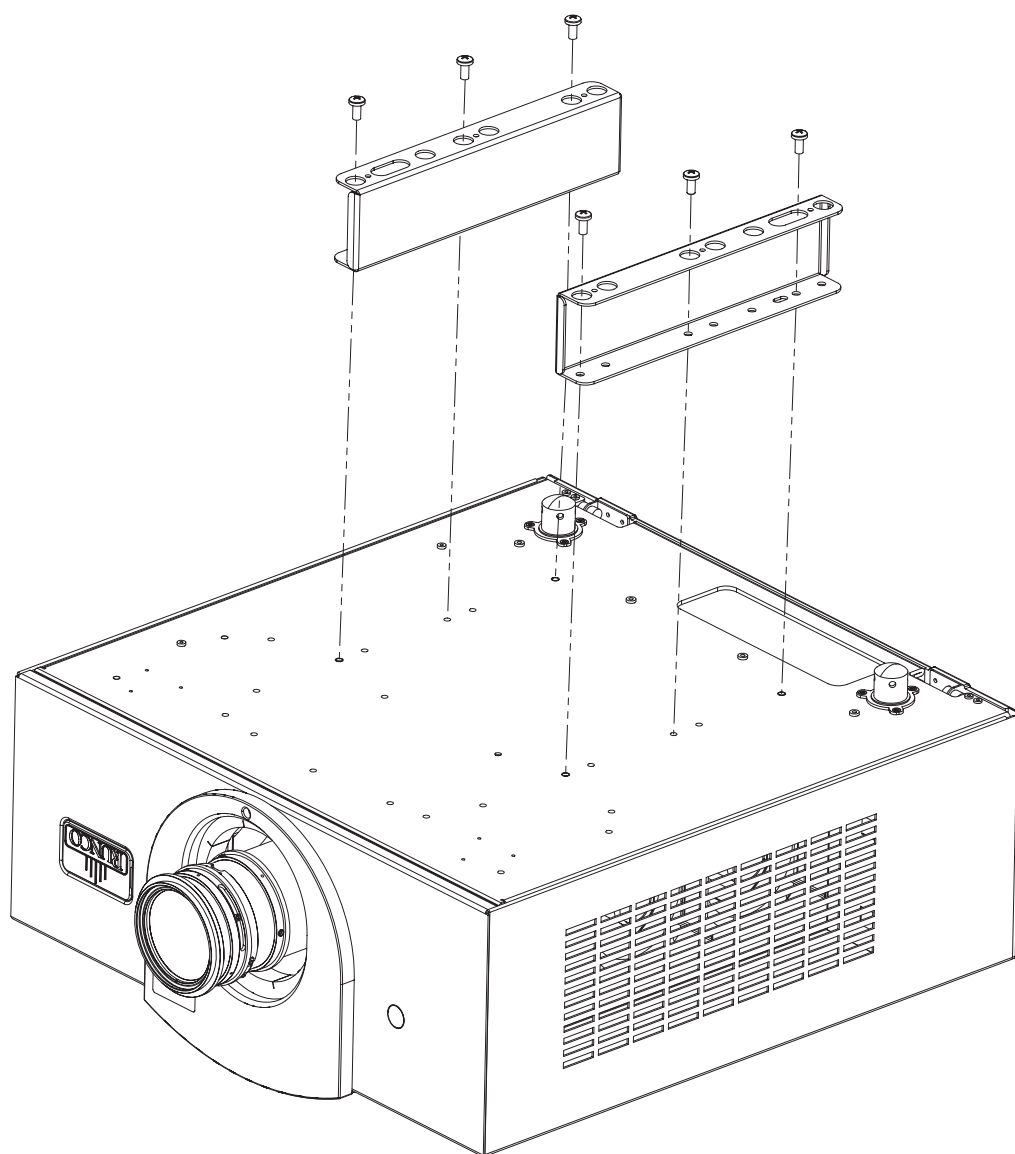

Figure 3-7. Q-750d Ultra with Ceiling Mount Adapters/Projector Stands
Using six (6) each of the supplied, M6 x 12mm Pan-Head Phillips screws (item #2), attach the AutoScope Ceiling Mount Adapters/Projector Stands (items #3 and #4) to the projector as shown in Figure 3-7.